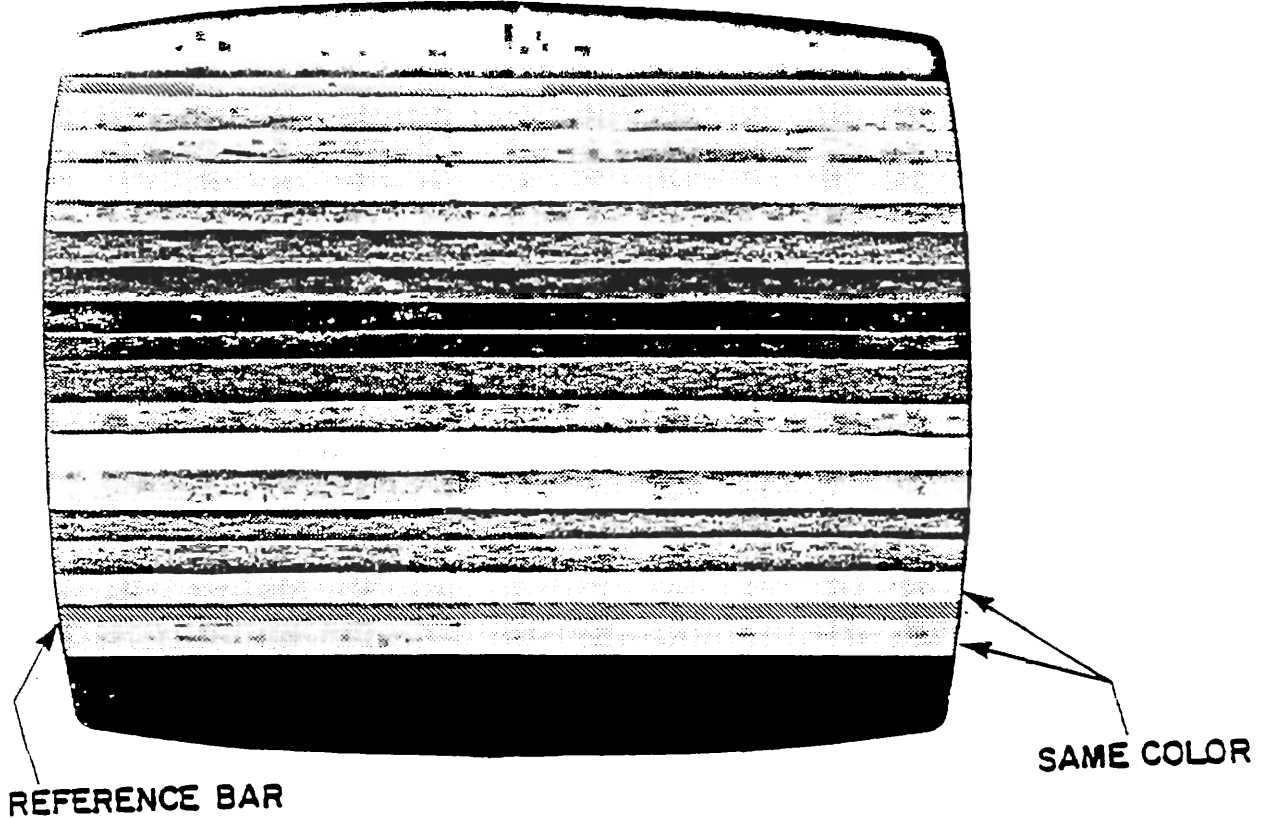

Figure 3-1 Color Bars Screen
- Format: A screen of horizontal color bars displays (see Figure 3-1). The screen should be steady and unchanging. A gray or blue horizontal reference line runs across the screen about three bars from its bottom. This reference line is thinner than the bars around it. R8 should be adjusted so the bars immediately above and below the reference line are within one shade of each other. Proper operation of the unit is indicated by being able to make this adjustment and by consistent color within the entire span of each bar on the screen. Minor glitches on the edges of the color bars are acceptable. Leave this test on for at least ten seconds in order to catch any intermittent problems, such as a bar momentarily changing colors or blanking out.